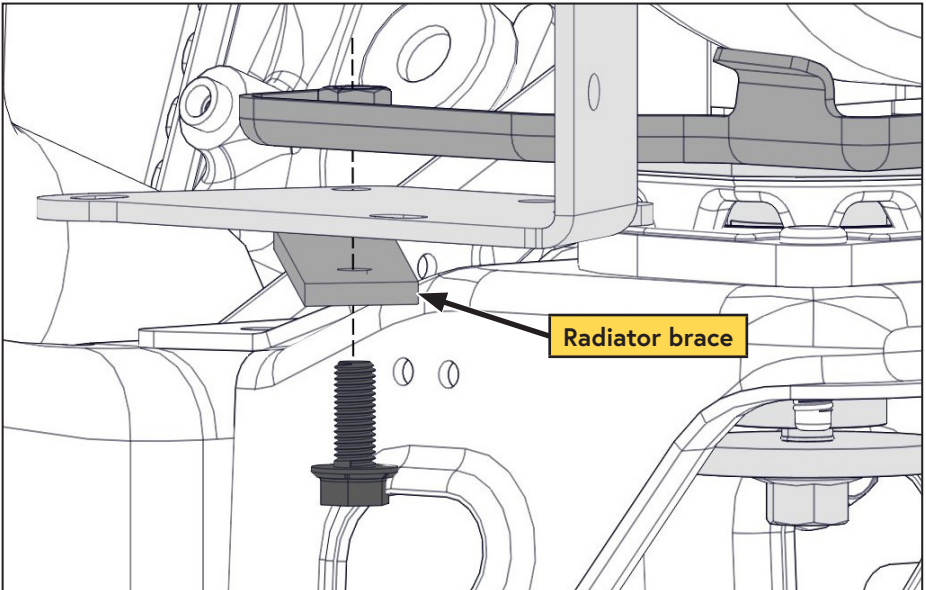

Figure 30 — Install cooler bracket
- ☐ Install the radiator brace and oil cooler bracket using the OEM fastener retained from the previous step; leave the fastener finger tight (Figure 30).